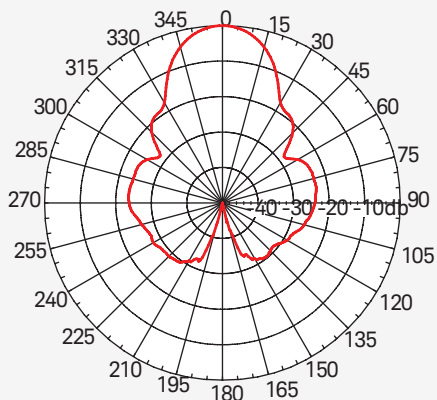

Figure 1. Displayed on a horizontal plane, this measurement shows the far-field antenna pattern of an X-band radar.
- Radiation pattern (Figure 1)